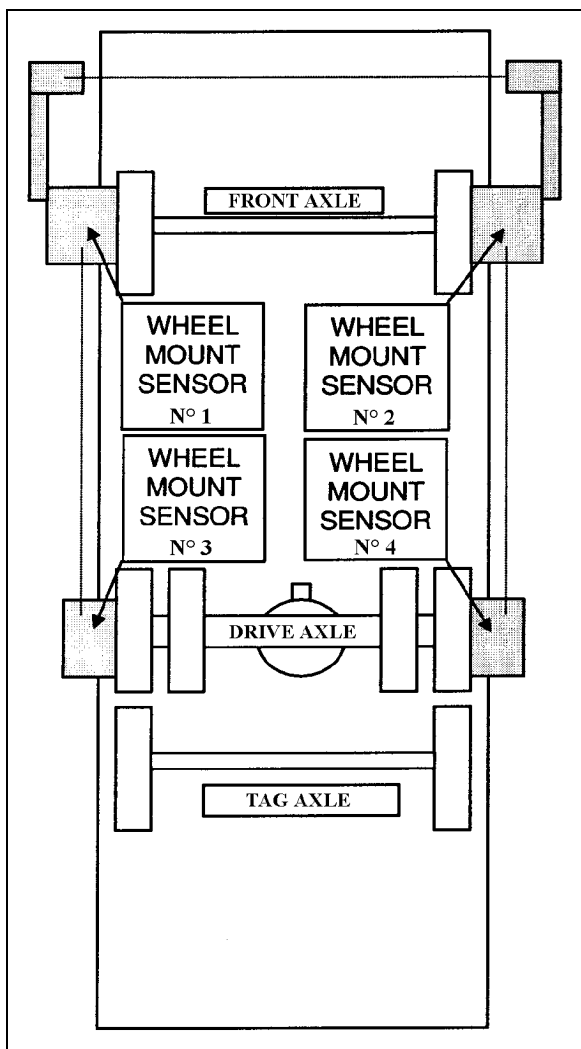

FIGURE 7: FRONT & DRIVE AXLE ALIGNMENT 11025
3. Install wheel mount sensors on front and drive axles (Figure 7).
| See reference numbers on wheel mount sensors (Figure 7). |
With the system installed as for front axle alignment (Figure 7), adjust drive axle according to specifications chart below. Use static wheel alignment systems which work with angle measurements only, such as Josam or Hunter systems. Static alignment specifications are listed in the following tables: